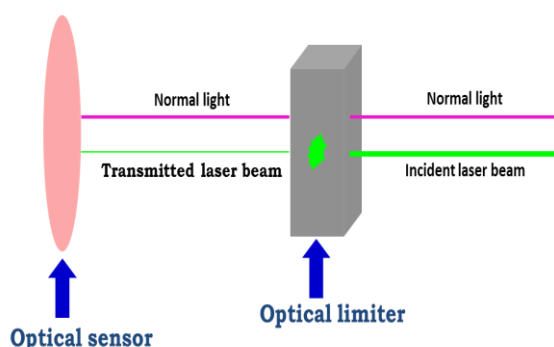

Fig. 2 Representation of optical limiting
In recent years, the number of cases of pilots being exposed to laser, the so called "lasered" whilst landing aeroplanes has increased dramatically. Non-linear optical (NLO) devices that limit high incident power light (Fig. 2) has been proposed as a potential solution to these problems. Optical limiting (OL) is a specific branch of nonlinear optics and it refers to decreased transmittance of a material with increased incident light intensity.